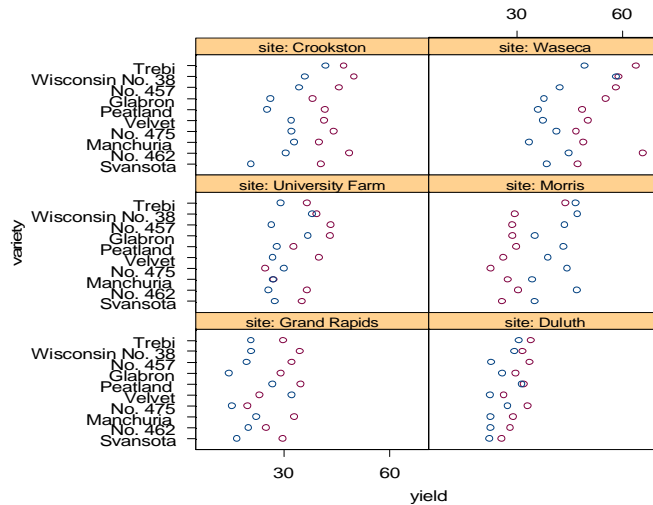

Figure 3.41: *Unformatted Trellis plot of barley yields for 1931 and 1932.*
- Click the **Color** button  on the **Plots 2D** palette. A Trellis graph appears showing barley yield for each variety, conditioned on the site. The yields for 1931 and 1932 appear in different colors. The resulting graph is shown in Figure 3.41.